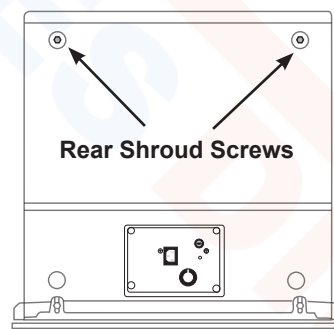

Figure 46.
1. Remove the (2) screws that secure the rear cover (Figure 46).